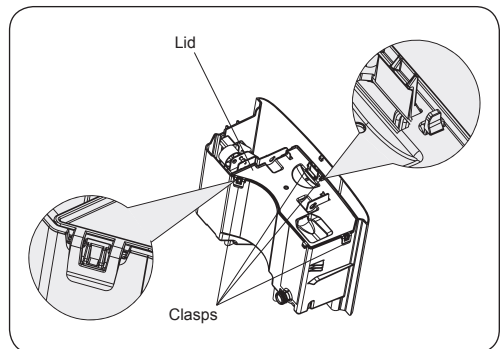

FIG. 8 – Unfastening the clasps
2. Unfasten all 4 clasps holding the lid in place (as shown in Fig. 8) then remove the lid.